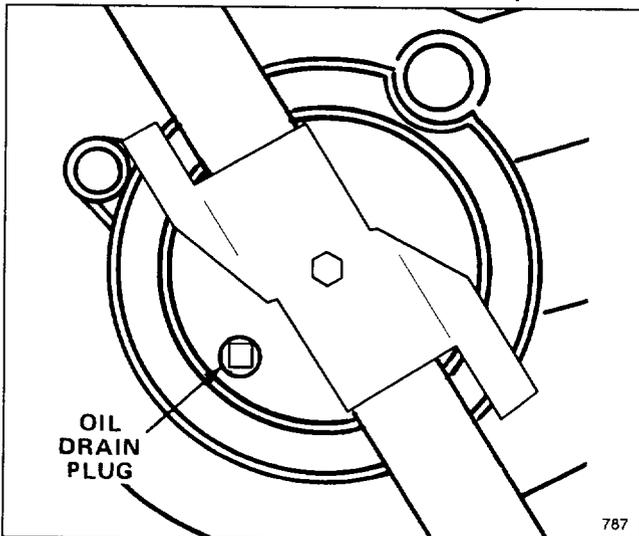

Figure 18
4. Remove drain plug (Fig. 18) from underside of mower using a $\frac{3}{8}$ " female square drive.